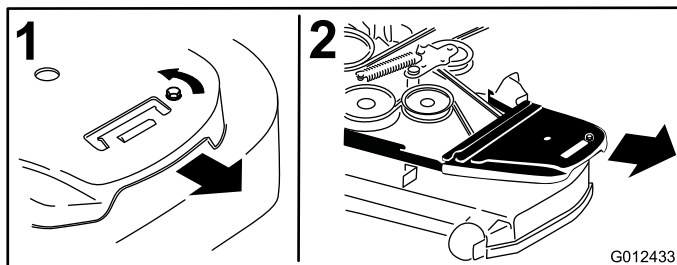

Figure 72
4. Remove the belt covers and the bolts attached to them (Figure 72).